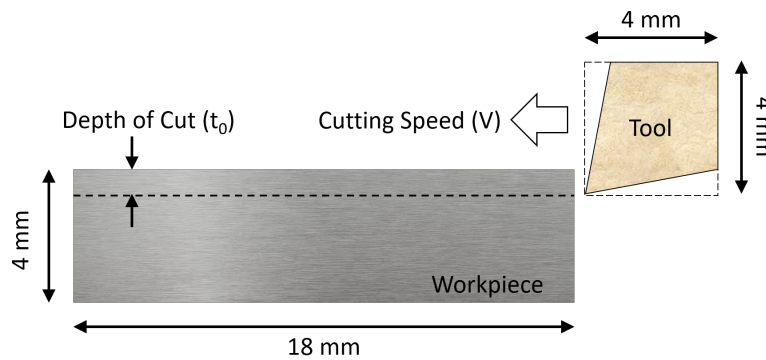

Figure 1: Schematic of orthogonal machining process with workpiece and tool geometries
A rectangular block of workpiece material with dimensions 18 mm (L) by 4 mm (H) by 1 mm (W) is undergoing planing (orthogonal) operation using a sharp, rigid tool as shown in Fig. 1.